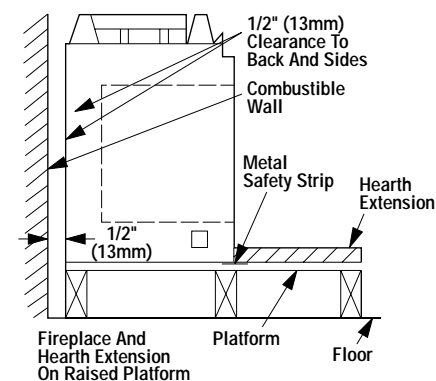

Figure 6
Step 2. Insert the provided metal safety strips, beneath the fireplace as illustrated in Figures 6, 7 and 8. The safety strips should overlap 1/2" for continual coverage of the floor.
IMPORTANT: UNDER NO CIRCUMSTANCES CAN THE FIREPLACE TOP SPACERS (FIGURE 6) BE REMOVED OR MODIFIED, NOR MAY YOU NOTCH THE HEADER TO FIT AROUND OR BE INSTALLED LOWER THAN THE SPACERS. THE HEADER MAY BE IN DIRECT CONTACT WITH THE TOP SPACERS BUT MAY NOT BE SUPPORTED BY THEM.